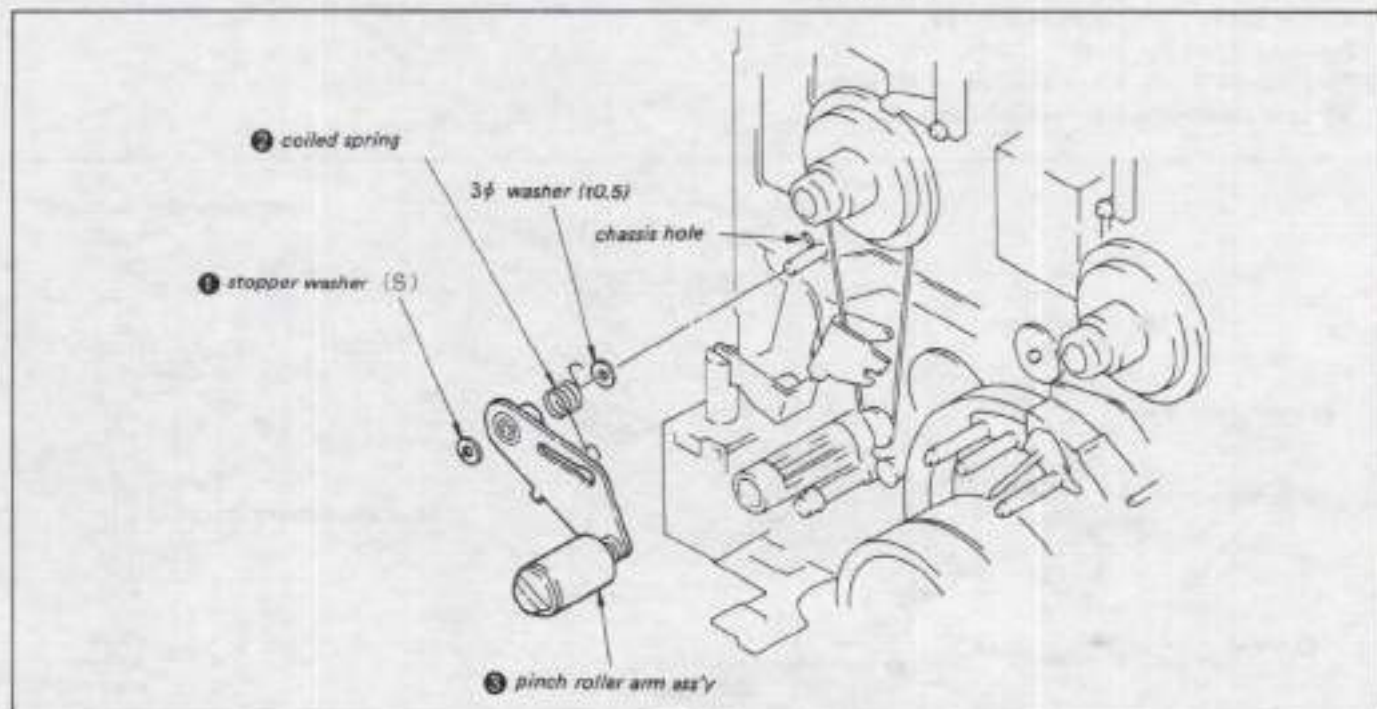

Fig. 3-11.
4. Removal of Pinch Roller Arm Ass'y (See Fig. 3-11)